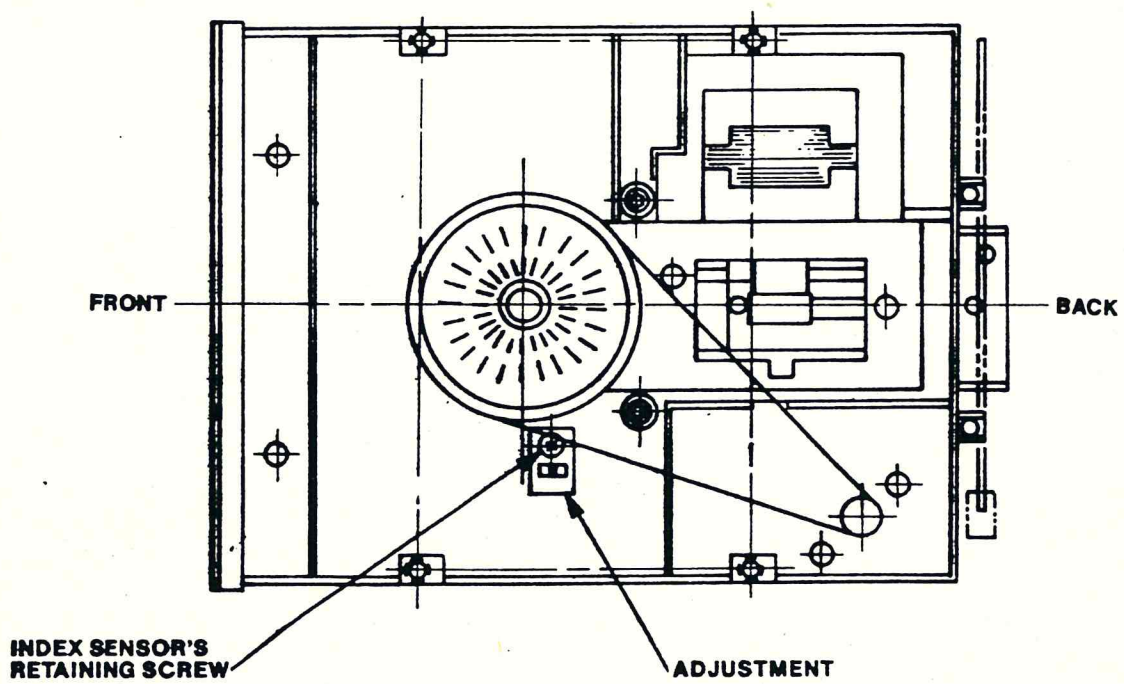

**FIGURE 5-1**
- 1) Connect trigger input of Oscilloscope to TP7 (Fig. 5-1) of Tandon section.
- 2) Connect probe (2) to TP1 (Fig. 5-1) of SHUGART Tandon section.
- B) Loosen the index sensor's retaining screw (Fig. 5-1) in Tandon Section. By moving the boss mounting, you will be able to increase or decrease the delimiter bit time. This setting should be set according to your Techtran Index Alignment Disk.
- 2). Monitor test point 7 (Fig. 5-1) Tandon section.